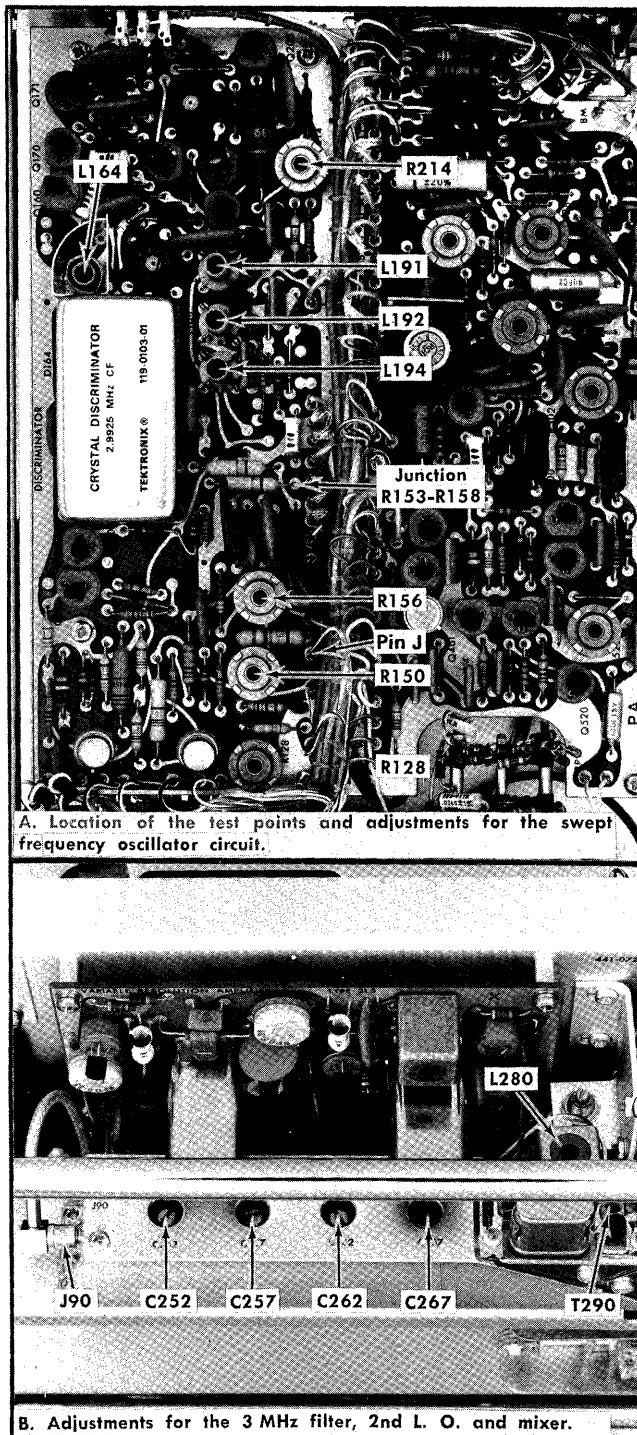

Fig. 6-4. Test points and adjustment locations for step 1.
d. Connect the 10 $\times$ probe from the test oscilloscope to the junction of R153-R158 (Fig. 6-4). Adjust R214 (Fig. 6-4) for approximately 6.6 volt peak to peak oscillator signal amplitude on the test oscilloscope. It may be necessary to adjust L164 for oscillator operation. Recheck step (c).
c. Adjust L191, L192, L194 (Fig. 6-4) and the front panel 30 kHz C.F. — 1 kHz/CM adjustment for optimum dispersion accuracy, (1 marker/cm).
f. Adjust R156 (Fig. 6-4) for minimum signal shift between the 100 kHz and 200 Hz positions of the DISPERSION-Hz/CM selector.
i. Set the DISPERSION-Hz/CM selector to 10 K. Adjust R150 (Fig. 6-4) for minimum display shift as the CENTER FREQUENCY-Hz selector is switched between 100 k and 900 k positions.